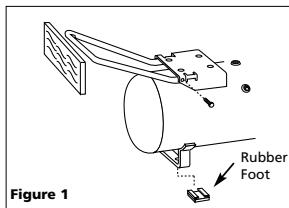

Figure 1
2. Place a short piece of wood against end of handle and tap it with a mallet or hammer to drive handle into baseplate until hole in handle and baseplate line up (See Fig. 1).
4. Spread openings in the rubber feet and slip over ground iron. Position the feet as shown in Fig. 1.